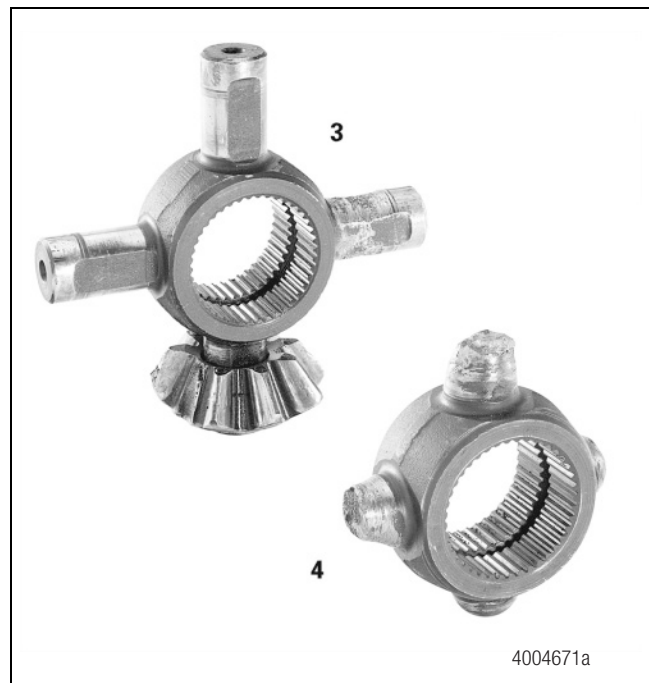

Figure 4.76
**Primary Damage:** In Figure 4.76, the third IAD shows a bent spider leg, and a gear seized to another spider leg. The fourth IAD shows that the spider legs have broken from the spline collar.